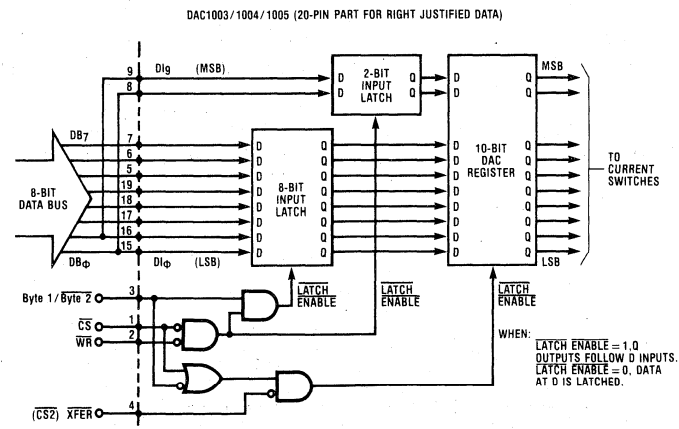

Figure 18. Input Connections and Controls for DAC1003-1005 Right Justified Data Option
the data bus and the internal functions of both of the data buffer registers (Input Latch and DAC Register) is shown in Figure 18. These parts require the LS or L0 Byte data group to be transferred on the 1st write cycle.
*For a connection diagram of this operating mode use Figure 18 for the Logic and Figure 21 for the Data Input connections